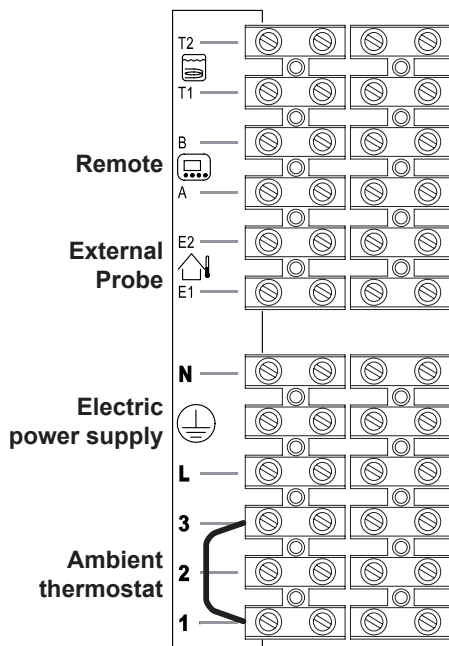
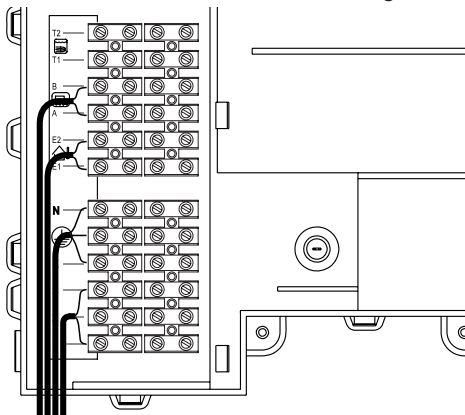
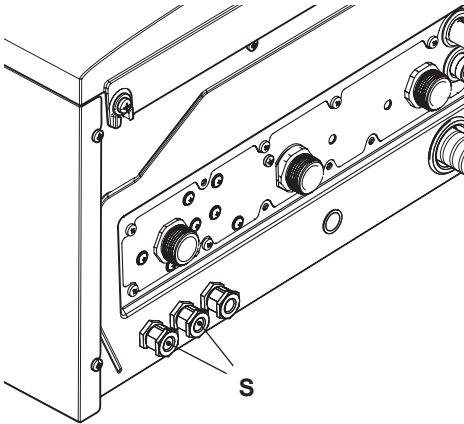

Fig. 6.18
Fig. 6.19
Fig. 6.20
- Connect the electric power supply cable coming from the fused spur isolation switch to the power supply terminal block of the boiler Fig. 6.18 keeping the same connections for the live (brown wire) and the neutral (blue wire). External 3A fuse or fused plug with same current rating is recommended.
The route of the boiler and ambient thermostat's electric power supply cable or wires must follow the route indicated in Fig. 6.19.
Allow the cables to exit the boiler by using the relevant cable clamps S (Fig. 6.20).
Use the clamps indicated in Fig. 6.18 to connect the ambient thermostat.
Use the ambient thermostat's clamps indicated in Fig. 6.18 and Fig. 6.19. to connect the zone valve. Insert the electric cables of the zone valve's micro switch contacts in clamps "1 and 3" of the ambient thermostat's terminal block as in Fig. 6.19.
The route of the boiler and ambient thermostat's electric power supply cable or wires must follow the route indicated in Fig. 6.19. Allow the cables to exit the boiler by using the relevant cable clamps S (Fig. 6.20).
The route of the external probe's connection wires must follow the route indicated in Fig. 6.19.
The route of the remote control cable must follow the route indicated in Fig. 6.19.